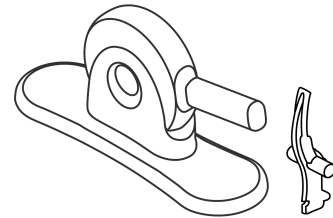

Figure 5: Edwards Crimper and Crimp Stopper
- **Edwards Crimper and Crimp Stopper (Figure 5)**